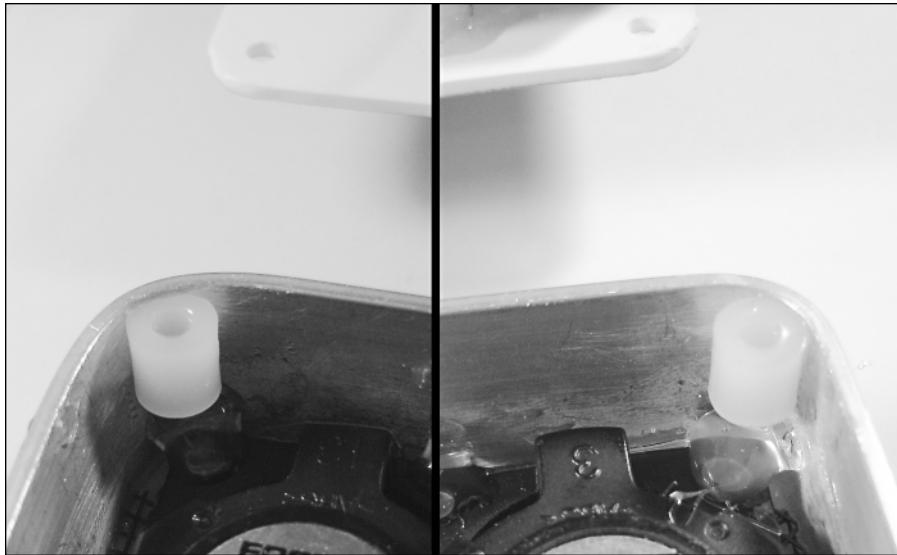

FIGURE 10-42: The final two screw posts to attach to the unit.
1. Take two 1/4"-high nylon spacers (make sure they've been threaded well), and glue them into the corners near each speaker as shown in Figure 10-42. Be sure to use epoxy on them as well, so that they don't snap loose when screwed into.